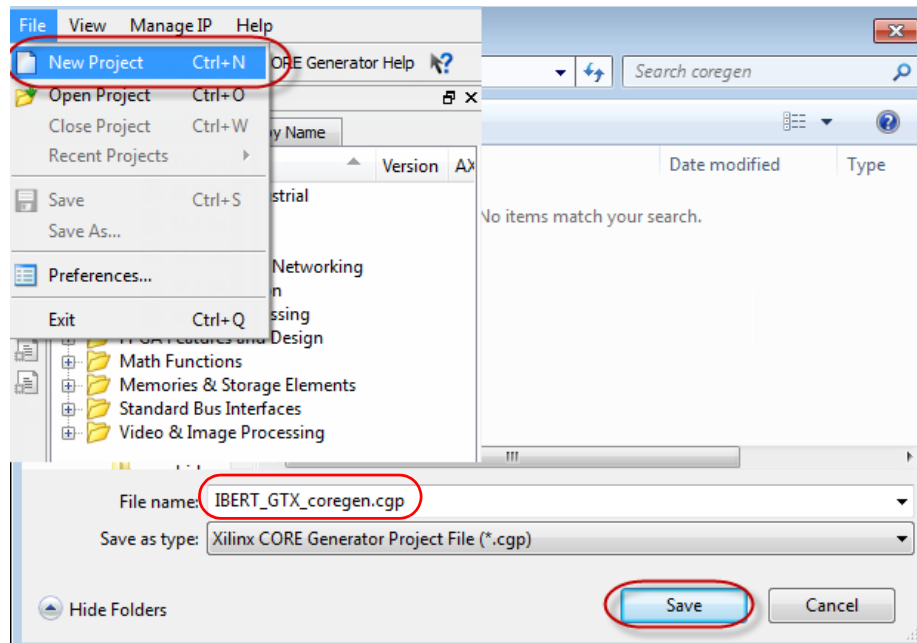

Figure 3: Creating and Saving a Project in the CORE Generator Tool
2. Click **File > New Project** and save the project as `IBERT_GTX_coregen`, as shown in Figure 3.